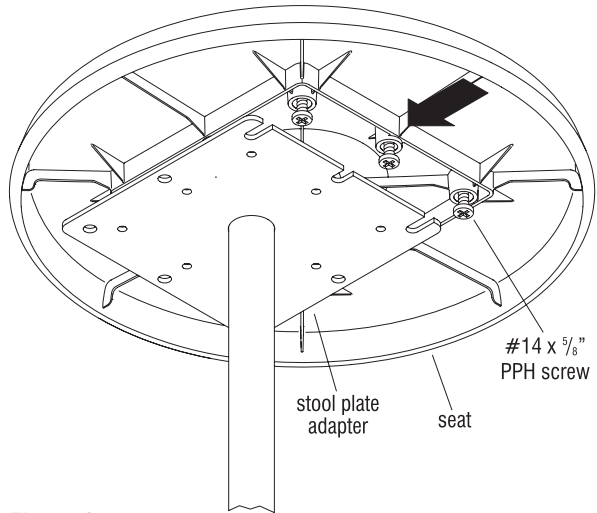

Figure 3
4. Align partially installed screws on seat with slotted holes on the stool plate adapter (Figure 3).